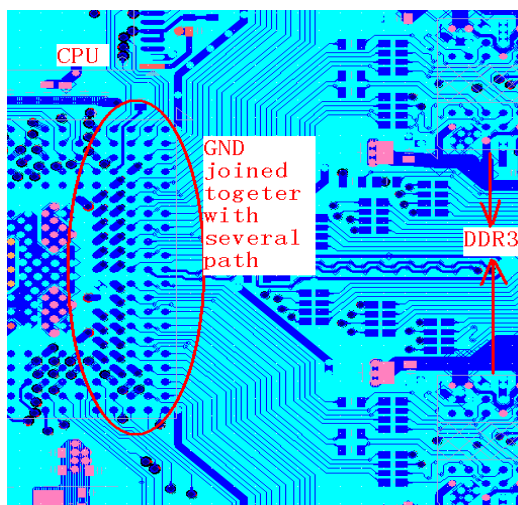
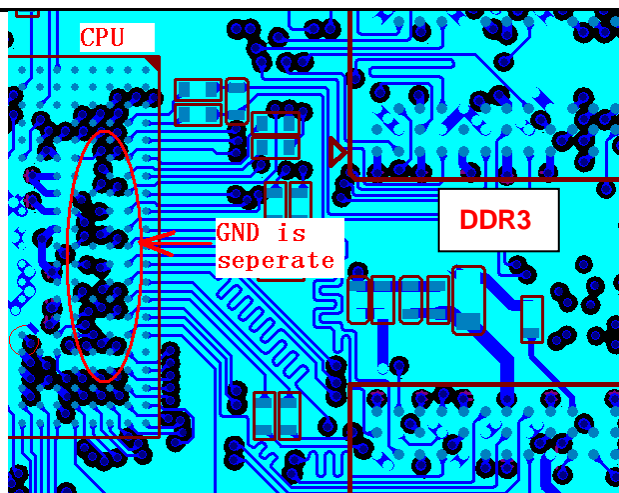

Figure 4-3 GND Joined Together
Figure 4-4 GND is seperate
- Each signal layer should have a nearby full ground plane to provide the shortest return current path. In order to maintain consistent characteristic impedance, it is important that the traces be routed over solid ground planes(Figure 4-3) not separate (Figure 4-4). A high speed signal trace should never be routed across a plane split. This will interrupt the return currents that flow beneath the conductor and can lead to crosstalk with neighboring traces. This will also increase emissions from the board.